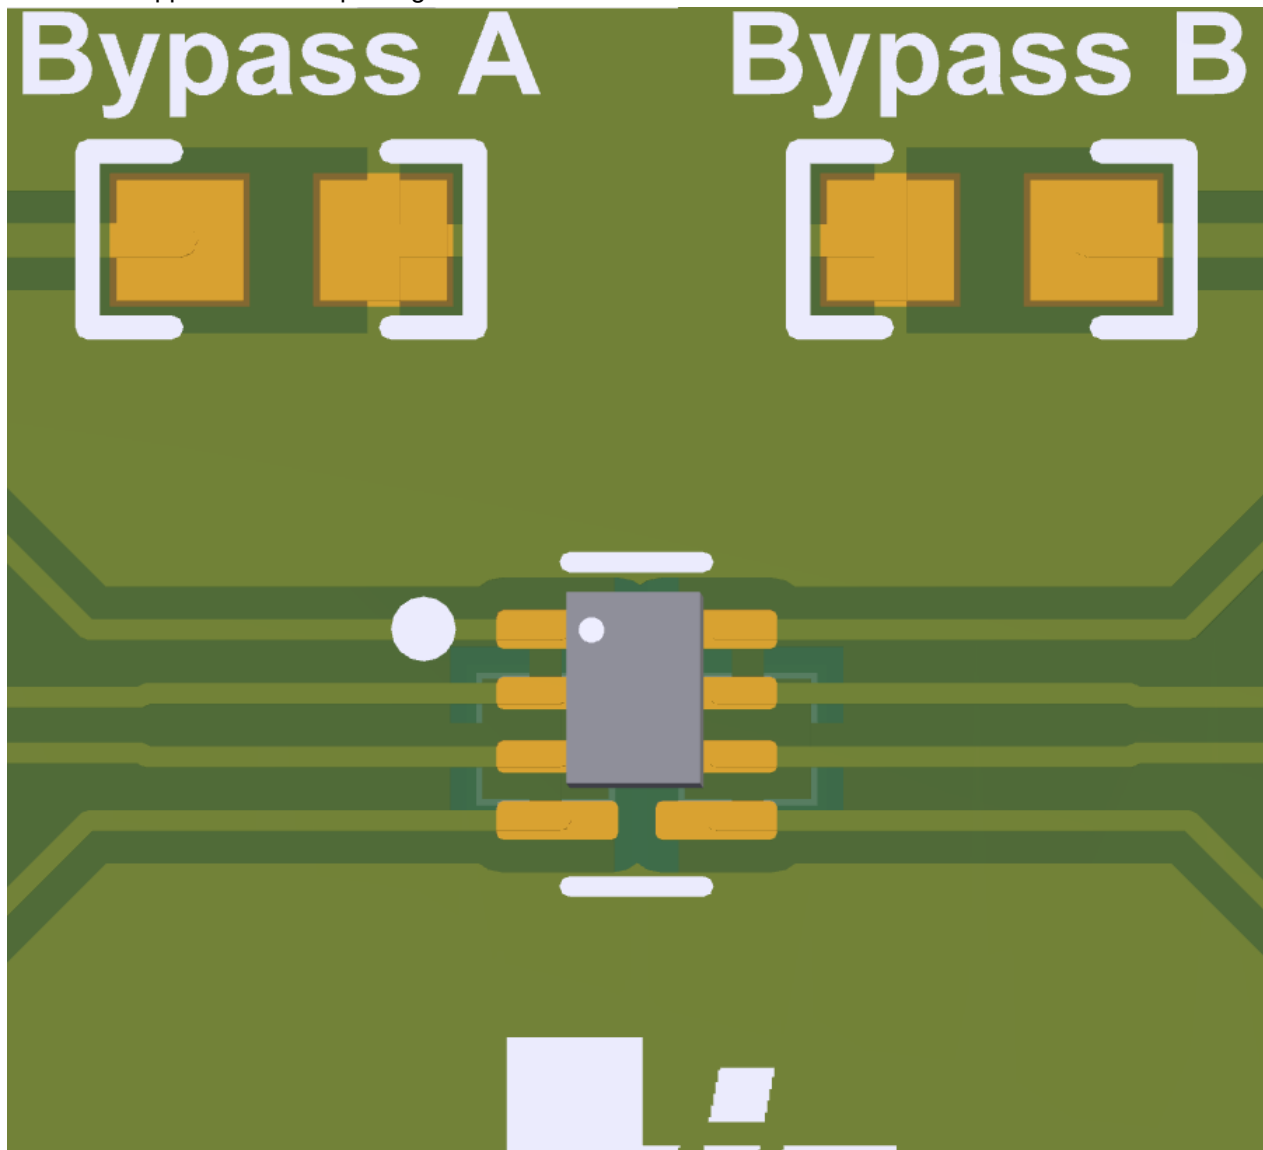

Figure 2-2. 6-pin DRY Placement
2. Solder down the device. Since this EVM supports small, non-leaded packages, this will likely require a hot air rework station. Figure 2-2 illustrates an example of proper placement of a DRY device on the footprint that also supports the DTT package.